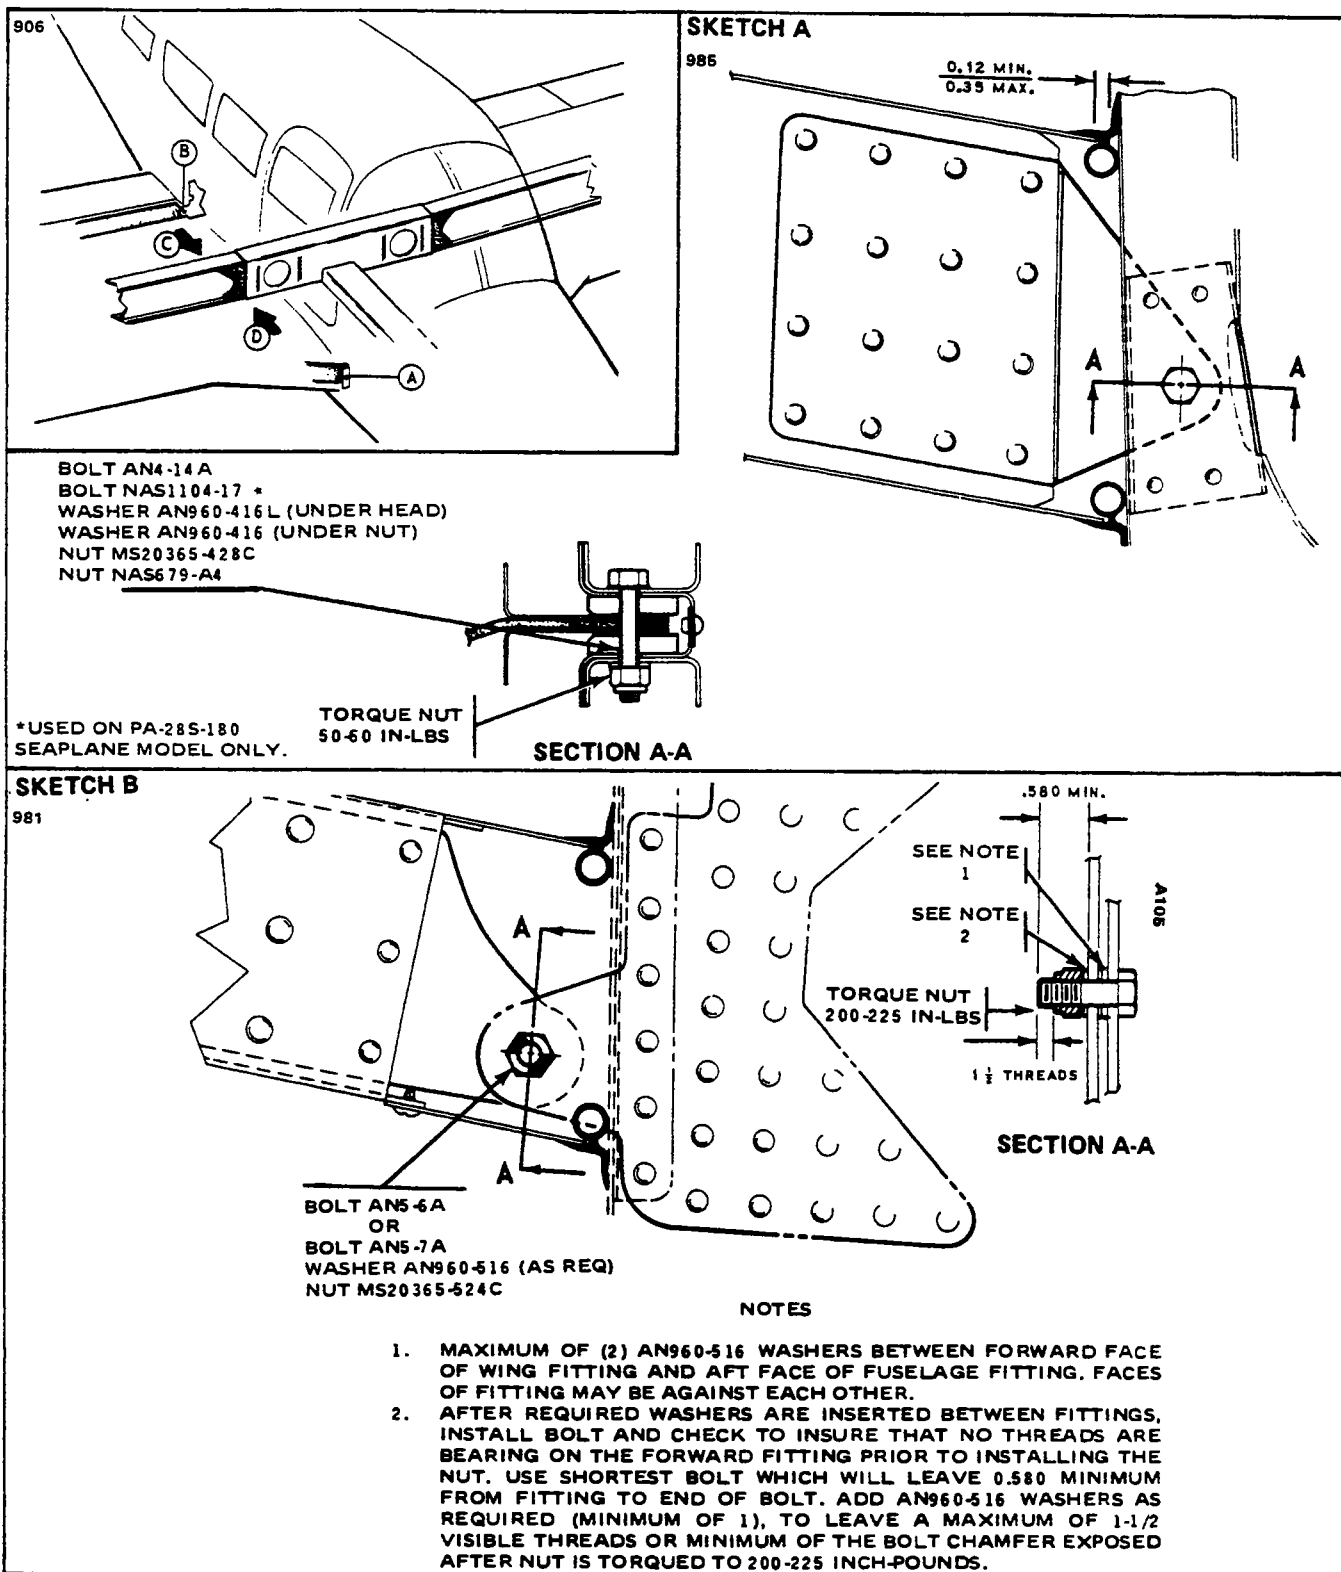

Figure 4-2. Wing Installation
**WARNING:** DO NOT DRIVE BOLTS IN OR OUT OF THE MAIN SPAR ATTACHING BOLT HOLES (SKETCHES C AND D IN FIGURE 4-2). TAKE EXTRA CARE IN REMOVING AND REPLACING THESE BOLTS TO PRECLUDE DAMAGING THE BOLT HOLES.
18. Remove the eighteen (18) main spar bolts. Do not drive out bolts. Take care not to damage bolt holes. Number bolts and bolt holes to ensure that, if reused, each bolt is reinstalled in the same hole it came out of.